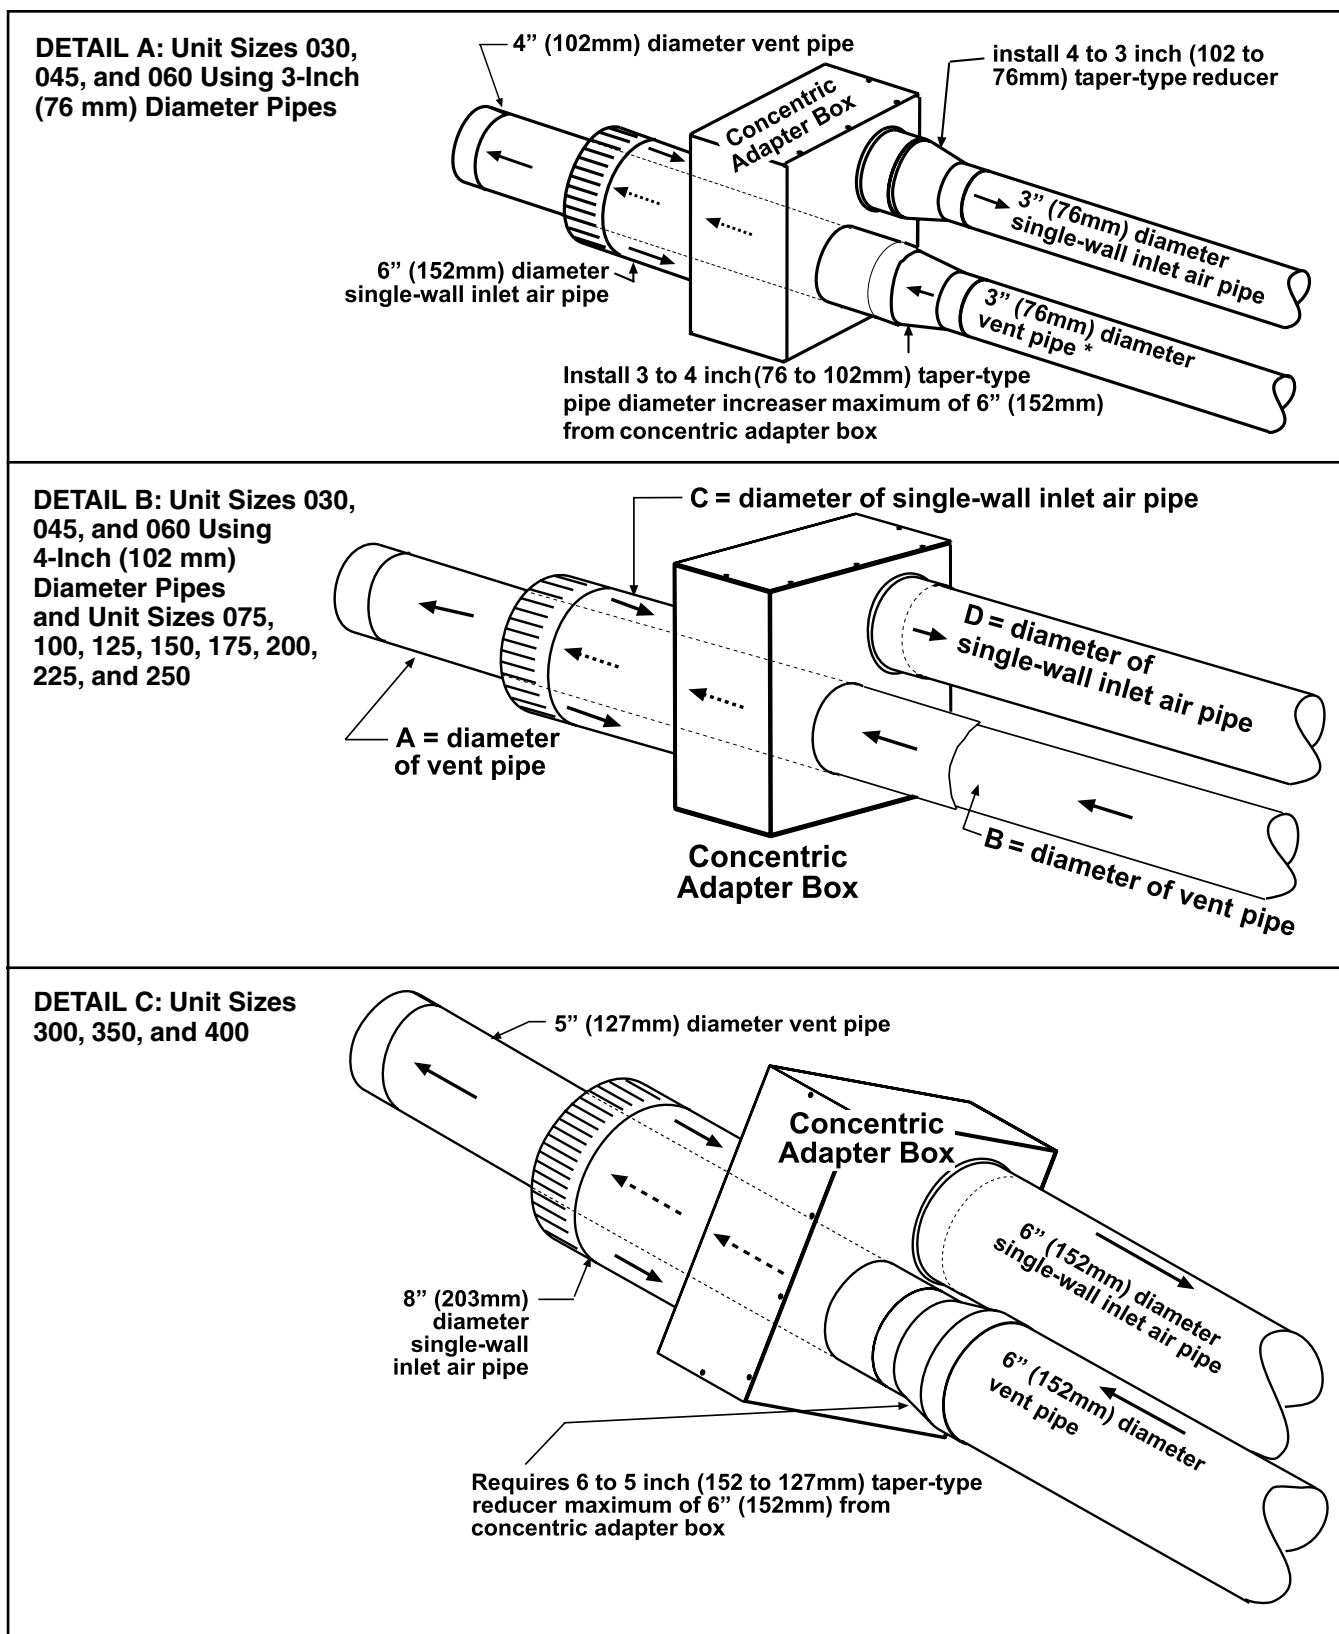

Figure 4. Concentric Adapter Box Connections (Refer to Table 4)
- Figure 4 shows concentric adapter box connections.
- Table 5 lists connection dimensions shown in Figure 4, DETAIL B.
- Unit sizes 300, 350, and 400 shown in Figure 4, DETAIL C always require a 6- to 5-inch (152- to 127-mm) taper-type reducer in the vent pipe.
*See Figure 4.